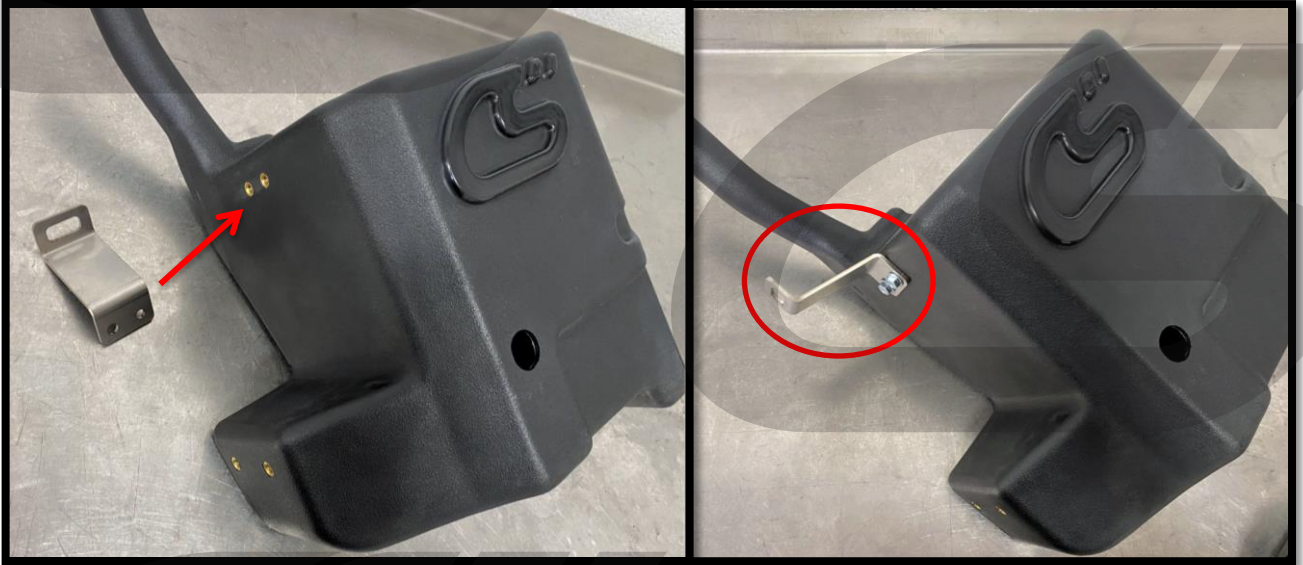

Figure 5a
- a) Install the upper side mounting bracket loosely to the CS aux fuel tank. Use two supplied M6x1.0x16mm bolts threaded in hand tight so the bracket still is free to move slightly. Shown in **Figure 5a**.